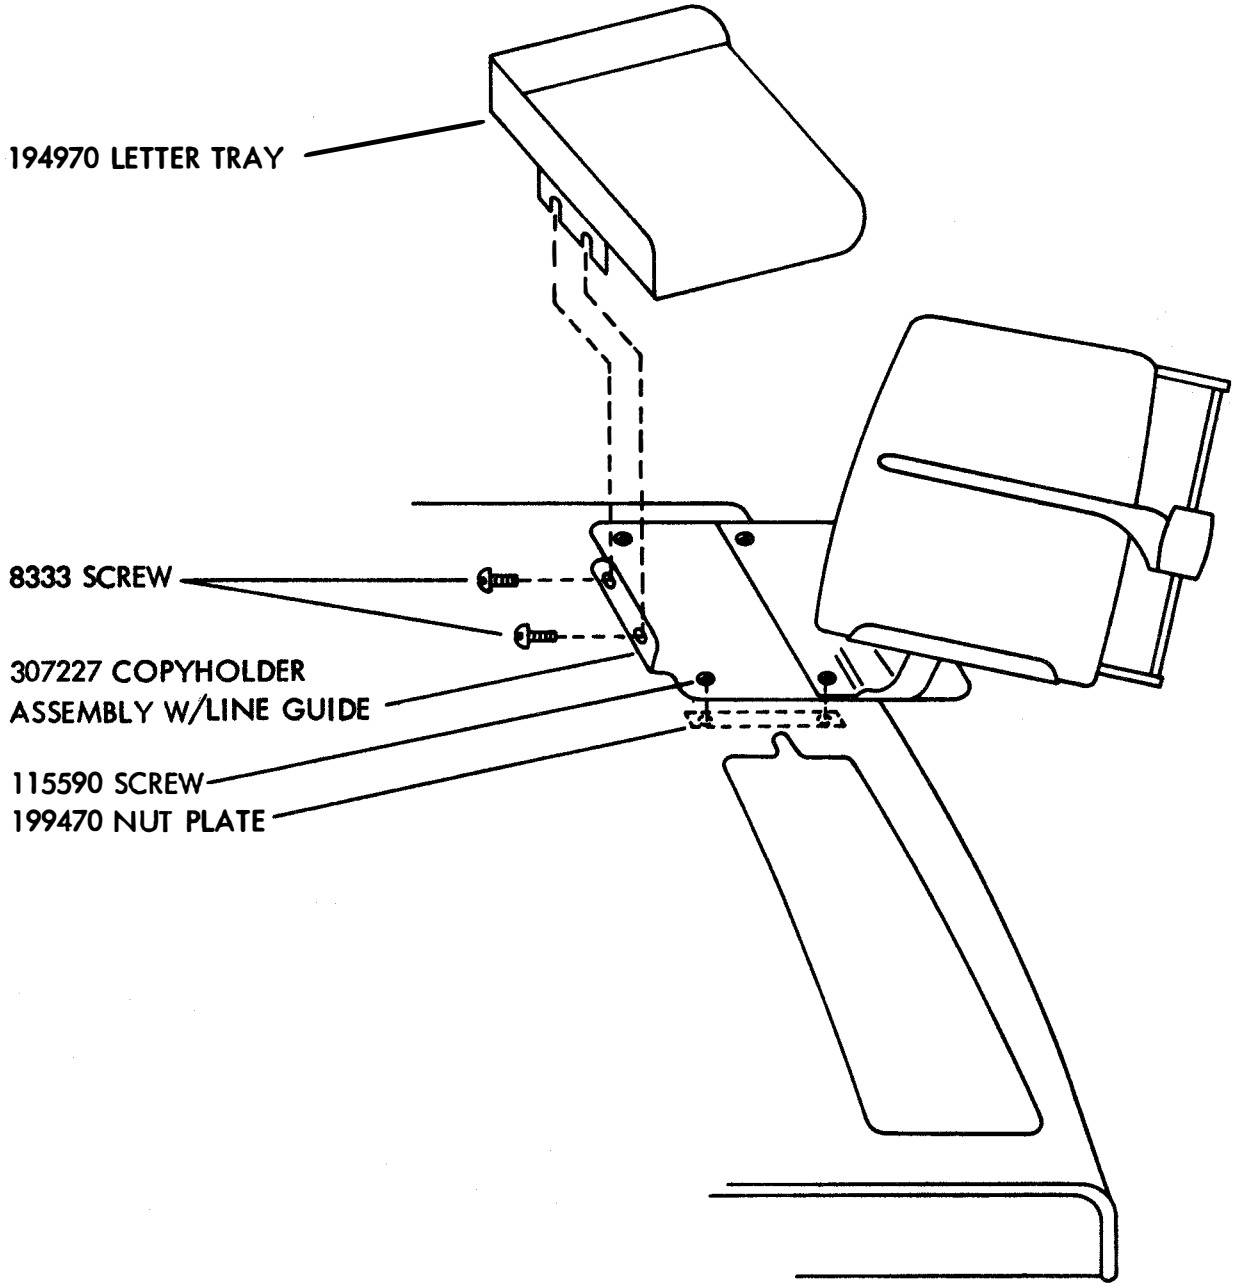

FIGURE 2
c. Mount the 307227 copyholder assembly w/line guide to the lower cover and secure, using the four 115590 oval head screws, and two 199470 nut plates. (See Figure 2)
d. Insert the two 8333 round head screws from right into the tapped holes in the 307227 copyholder assembly (see Figure 2). Tighten only a few turns.